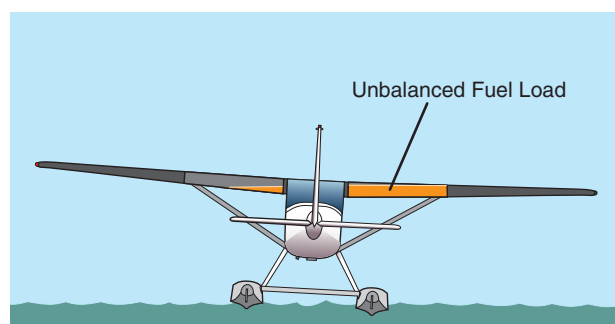

Figure 5-1. The location of the CG can affect seaplane handling.
Naturally, the location of the additional weight within the seaplane affects center of gravity (CG) location. Because of the way the floats respond to weight, the CG location affects the seaplane's handling characteristics on the water. If the CG is too far aft, it may be impossible to put the seaplane on the step. If the CG is located to one side of the centerline, one float will be pushed deeper into the water, resulting in more water drag on that side. Be sure to balance the fuel load between left and right wing tanks, and pay attention to how baggage or cargo is secured, so that the weight is distributed somewhat evenly from side to side. [Figure 5-1]